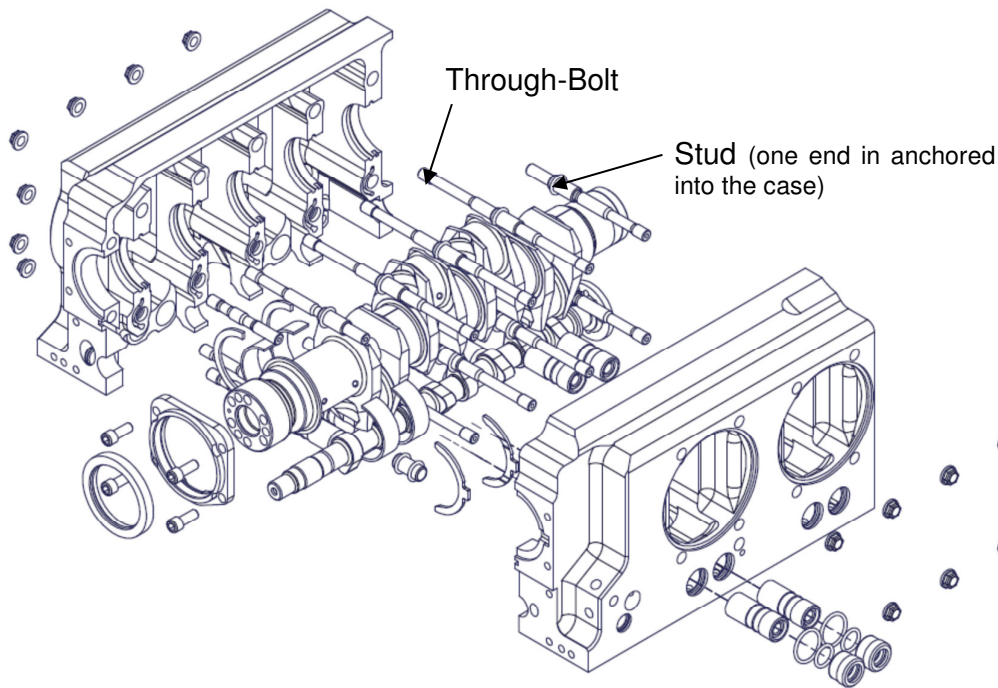

Figure 1 – General Engine Layout
- Jabiru Engines are assembled using a combination of Through-Bolts and Studs – as shown in Figure 1 below. The number of through-bolts varies depending on which engine model is considered but there are always 6 studs (not all with the same part number). The through-bolts and studs hold the cylinders in place and the halves of the crankcases together.